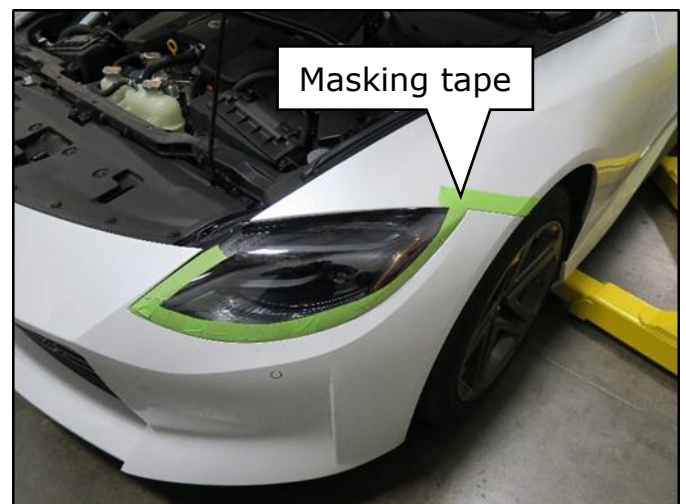

Figure 7
6. On the LH side, apply Auto masking tape to the side of LH front fender and the headlamp assembly as shown in Figure 7.